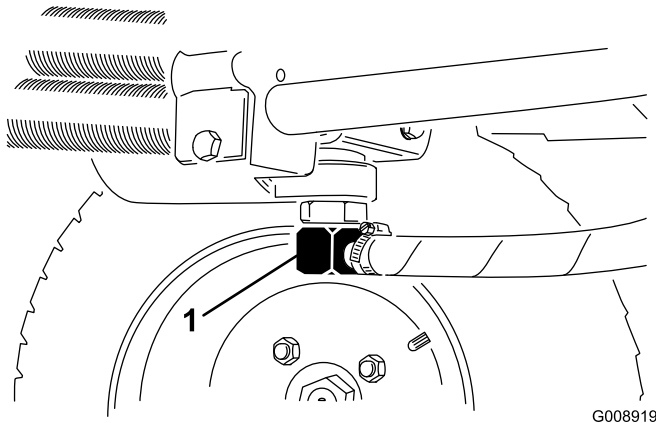
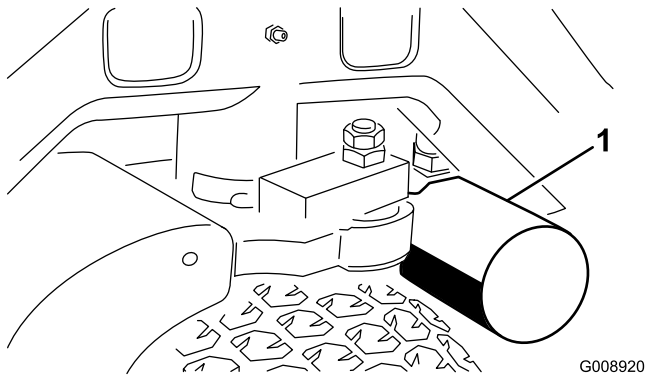

Figure 72
Figure 73
2. Disconnect the hydraulic line (Figure 72) or remove the hydraulic filter (Figure 73) and let the hydraulic fluid flow into a drain pan.
4. Place a drain pan under the filter (Figure 73) and remove the filter.